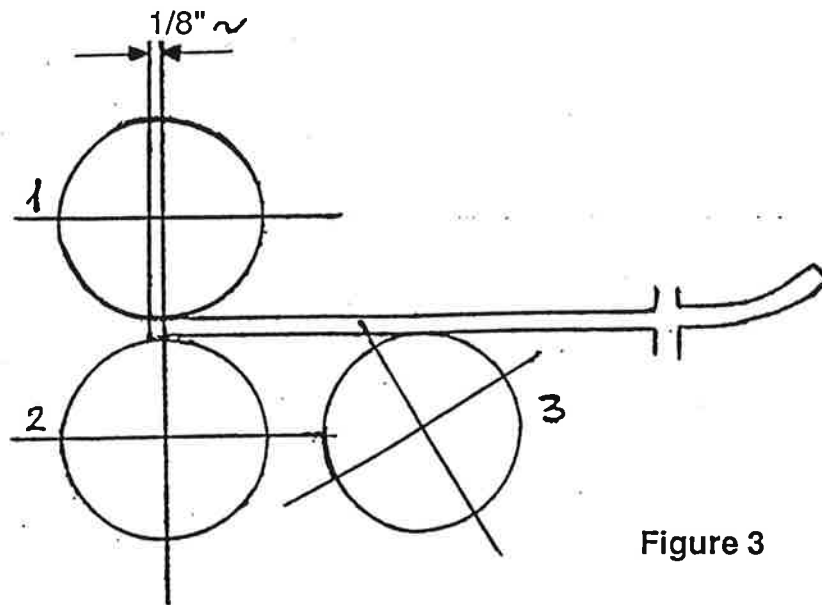

Figure 3
- 1) Bending is done as shown in Figure 3.